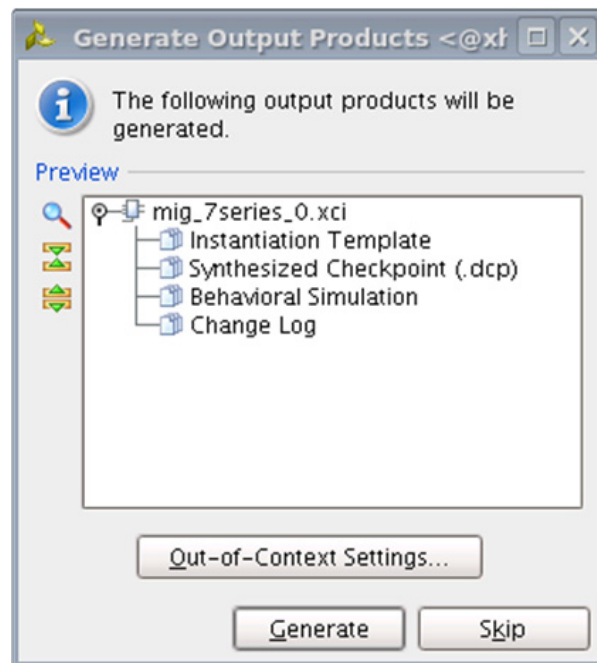

Figure 3-25: **Generate Output Products Window**
1. After clicking **Generate**, the **Generate Output Products** window appear. This window has the **Out-of-Context Settings** as shown in Figure 3-25.